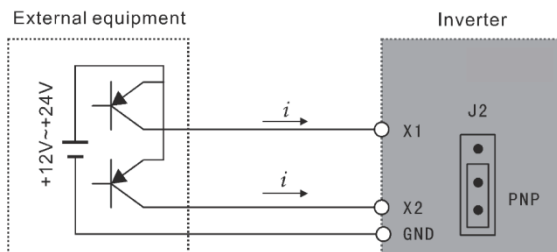

Figure 3-2 PNP Type Wiring Mode
- (2) When PNP type wiring mode is adopted for external equipment, source-type logic is induced, and the current flows into from input terminal (sinking current) as shown in Figure 3-2, at the same time parameter P067=1 is required.